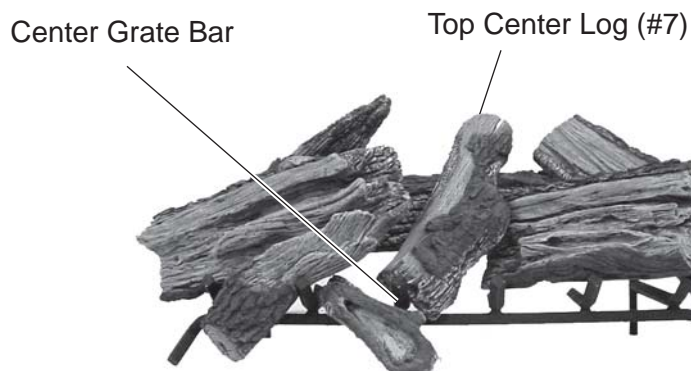

Figure 144 - Placing Top Center Log (#7) on Rear Log
8. Place wide end of Top Center Log #7 on Rear Log #1. Rest narrow end of Top Center Log #7 to the left of center grate bar barely touching the Mid Log #6. *See Figure 144.*